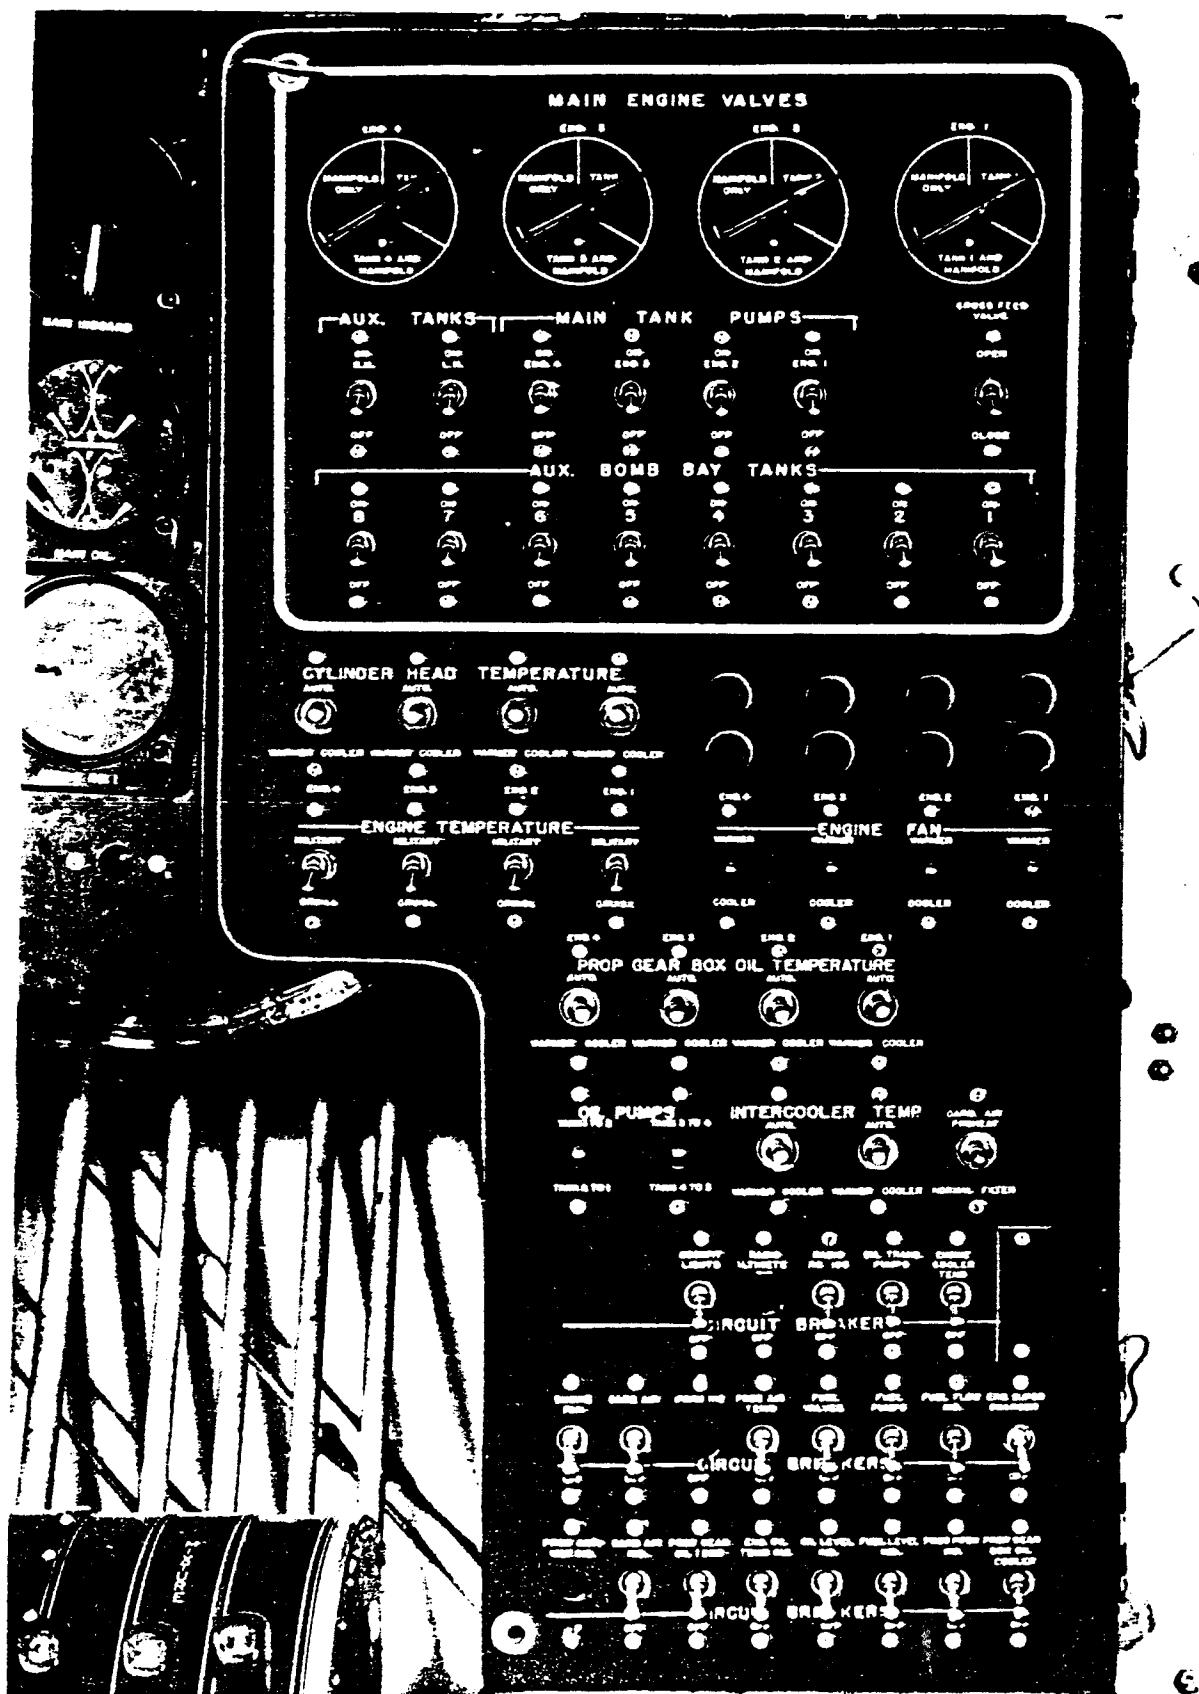
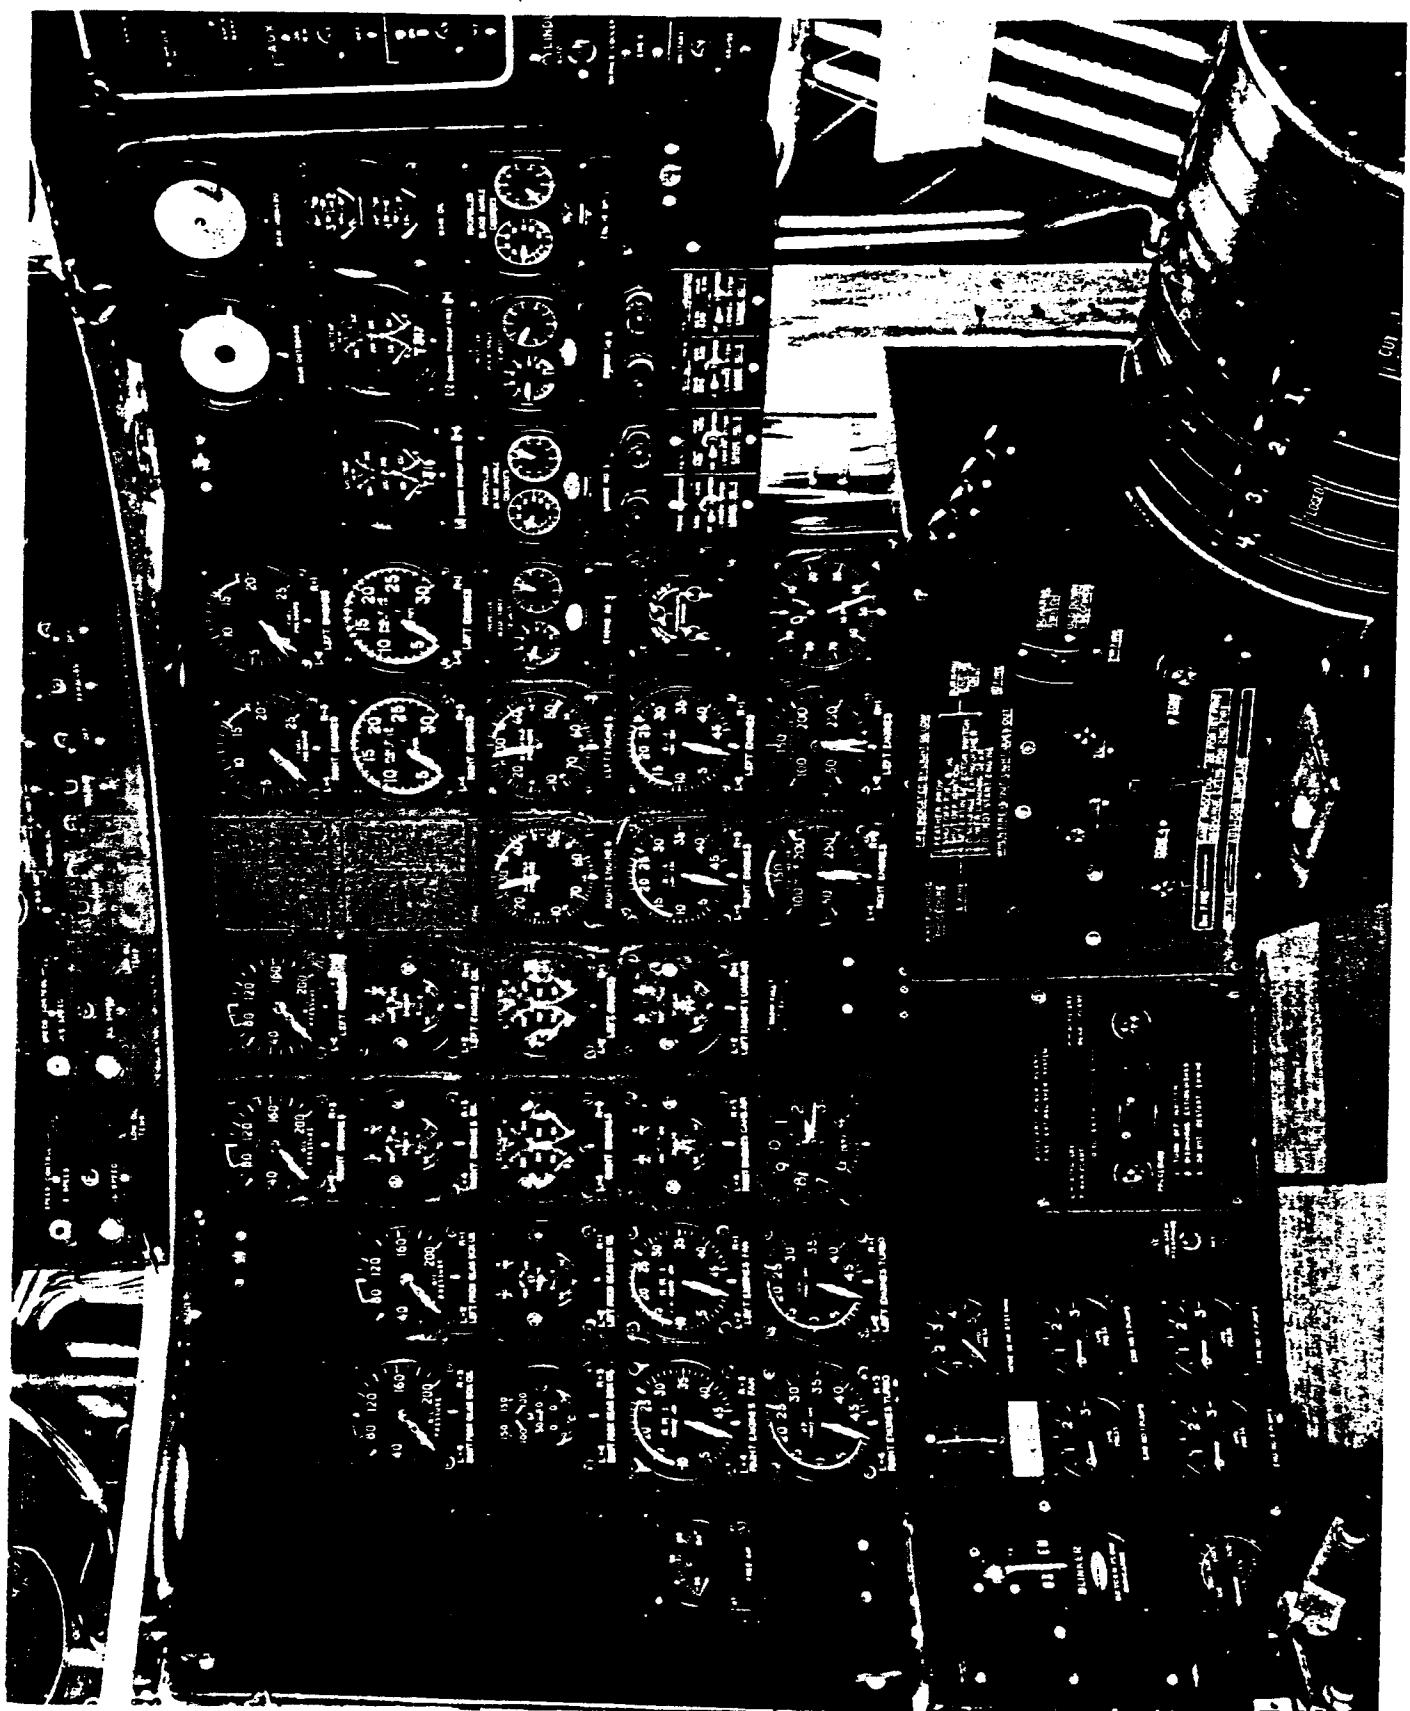

Figure 16. Engineer's Lower Electrical Control Panel
Figure 18. Engineer's Instrument Panel
d. MAIN ENGINE VALVES.- Fuel is directed to the engines through a series of motor-controlled valves which are operated by the MAIN ENGINE VALVE switches. (See figure 16.) The "TANK # ONLY" position connects an engine to its main tank only. "TANK AND MANIFOLD" position connects the tank and its engine to the manifold line. "MANIFOLD ONLY" position of a switch connects its respective engine to the manifold and shuts off its main tank.
e. MAIN TANK PUMP SWITCHES.- These switches located on the engineer's lower electrical panel (See figure 16) have "ON" and "OFF" positions to control the single speed tank pumps.
g. CROSS FEED VALVE SWITCH. (See figure 16.)- This switch, having "OPEN" and "CLOSE" positions, controls valves in the manifold line. When the switch is in the "OPEN" position, fuel is allowed to flow through the manifold line, so that an engine or engines may be operated with fuel supplied by a tank on the opposite side of the airplane.
h. FUEL FLOW INDICATOR.- Two fuel flow indicators of the dual indicating type are located on the engineer's instrument panel. (See figure 18.)
i. FUEL LEVEL INDICATORS.- Two dual indicating type fuel level indicators are located on the engineer's instrument panel. One indicator is used for both outboard fuel tanks and the other indicator is used for both in-board tanks. (See figure 18.)
a. TRANSFER SWITCHES.- Two oil transfer switches are located on the engineer's lower electrical control panel. (See figure 16.) One switch is for the two left-hand tanks and the other for the right-hand tanks. One position of a switch transfers oil in one direction and in the other position the direction of transfer is reversed.
e. PROPELLER CONTROLS. (See figures 18 and 25.)- A master propeller control, engineer's disconnect switch, feathering controls, and pitch reversing switches are located on the pilot's pedestal. The pilot can control the rpm settings of all four propellers with the master control. The master propeller control must be moved to the "INC.RPM" or "DEC.RPM" position until the desired rpm is reached. The engineer is provided with individual controls for each propeller consisting of;
h. CARBURETOR AIR CONTROL SWITCH.- A single three-position switch, see figure 16, is used
i. ENGINE FAN SWITCHES.- The engine fan switches, figure 16, have two momentary positions, "WARMER" and "COOLER." The center position is off. Two dual indicating fan speed tachometers are located on the engineer's instrument panel. (See figure 18.) Holding a switch to the "WARMER" or "COOLER" position decreases or increases the fan speed respectively. Approximately 6 seconds are required to change the fan speed from one extreme to the other.
j. CYLINDER HEAD TEMPERATURE CONTROL SWITCHES.- These switches, figure 16, control the opening and closing of cooling flaps installed in the trailing edge of the wing. The switches have three positions including an "AUTOMATIC" position. The "AUTOMATIC" position is not used. Cylinder head temperatures must be manually controlled by holding the switches to the "WARMER" or "COOLER" position momentarily and then returning them to the center (off) position. The length of time for holding a switch to
l. INTERCOOLER TEMPERATURE CONTROL SWITCHES. These two switches, one controlling the intercooler temperature for the two left engines and the other the two right engines, are located on the engineer's lower control panel. (See figure 16.) The switches have an "AUTOMATIC" position, momentary "OPEN" and "CLOSE" positions, and a center off position. Intercooler temperature is manually controlled by holding a switch to the "OPEN" or "CLOSE" position for an estimated length of time according to the amount of temperature change desired and then returning the switch to the center position. Operating time from one extreme to the other is approximately 38 seconds.
50. BLOWER THROAT FIRE EXTINGUISHER.- A special fitting is provided in the airplane, among the stowed items, to replace the conventional nozzle on a 50# Co₂ fire extinguisher bottle. The ground crew must attach this fitting to an extinguisher, ready for use before starting the engines. The fitting attaches to connections (two in each main gear wheel well) which lead directly to the blower section of each engine. A sudden rise in temperature, shown by the blower throat temperature indicators, figure 18, indicates a fire. The Co₂ charge may be released directly to the affected blower section by the ground crew.